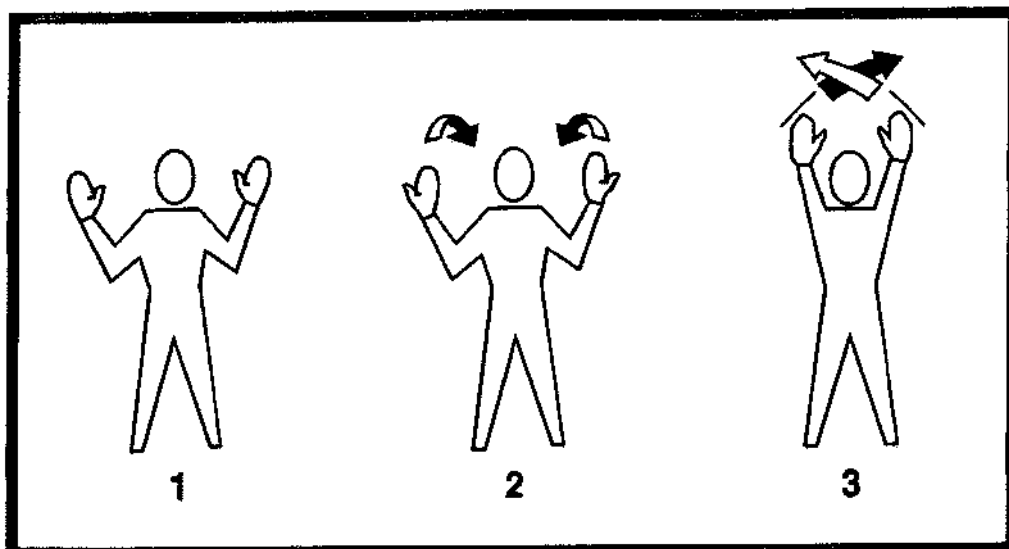

fig. 9.26. Marshalling Signals.
12. (Refer to figure 9.26) Which marshalling signal should be given if a taxiing aircraft is in danger of striking an object ?